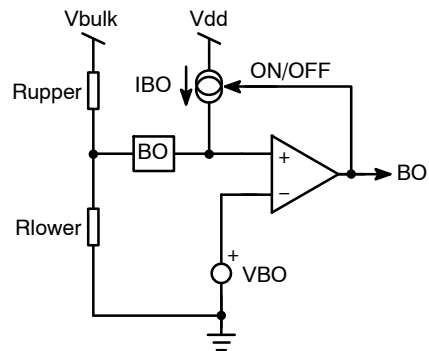

Figure 44. The Internal Brown-out Configuration with an Offset Current Source
The Brown-Out circuitry (BO) offers a way to protect the resonant converter from low DC input voltages. Below a given level, the controller blocks the output pulses, above it, it authorizes them. The internal circuitry, depicted by Figure 44, offers a way to observe the high-voltage (HV) rail. A resistive divider made of R_{upper} and R_{lower} , brings a portion of the HV rail on pin 5. Below the turn-on level, the 26.5 μ A current source IBO is off. Therefore, the turn-on level solely depends on the division ratio brought by the resistive divider.